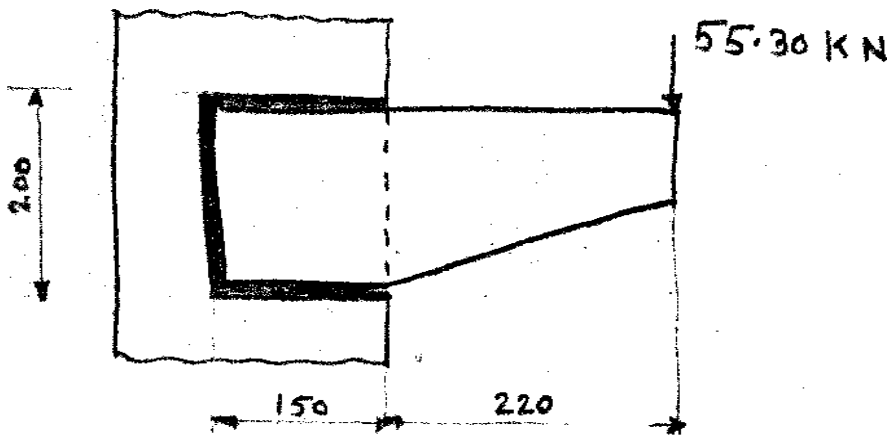

Fig. 3
- b) A welded joint as shown in figure. 3 is subjected to an eccentric load  $55.30$  kN. A bracket is welded to the side of column. Calculate the size of weld when maximum shear stress is  $80$  MN/m2.